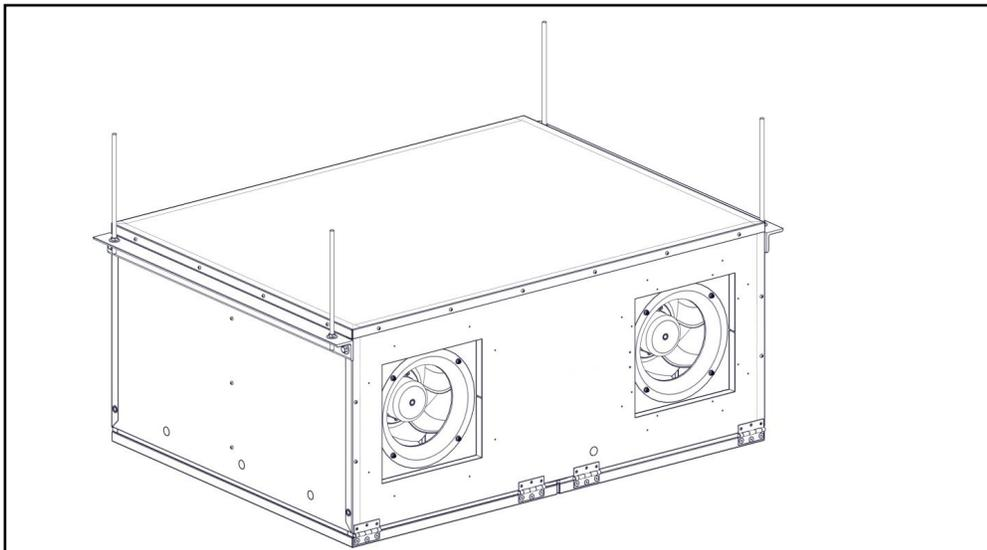

FIGURE 5.3.3 ALTERNATE CEILING HANGING ARRANGEMENT
For instances where the Hanging Bracket Kit will not be used, it is also acceptable to bolt support members by others directly to the unit at the corner rivet nuts. Use (4) 3/8"-16 bolts and washers to attach support members (such as angle iron) to the unit as shown in Figure 5.3.3. Then attach 3/8" threaded rod to the support members near each of the four corners of the unit. Ensure that the unit is adequately supported at all four corners and that the placement of the support members and threaded rod maintains required service clearances.